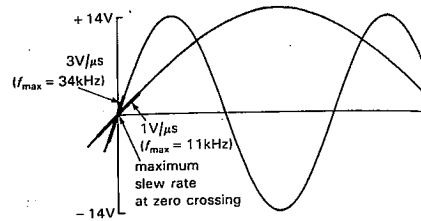

Figure 4.29. Slew-rate-induced distortion.
The op-amp "compensation" capacitance (discussed further in Section 4.32) and small internal drive currents act together to limit the rate at which the output can change, even when a large input unbalance occurs. This limiting speed is usually specified as *slew rate* or *slewing rate* (SR). For the 411 it is $15V/\mu s$; low-power op-amps typically have slew rates less than $1V/\mu s$, while a high-speed op-amp might slew at $100V/\mu s$, and the LH0063C "damn fast buffer" slews at $6000V/\mu s$. The slew rate limits the amplitude of an undistorted sine-wave output swing above some critical frequency (the frequency at which the full supply swing requires the maximum slew rate of the op-amp, Fig. 4.29), thus